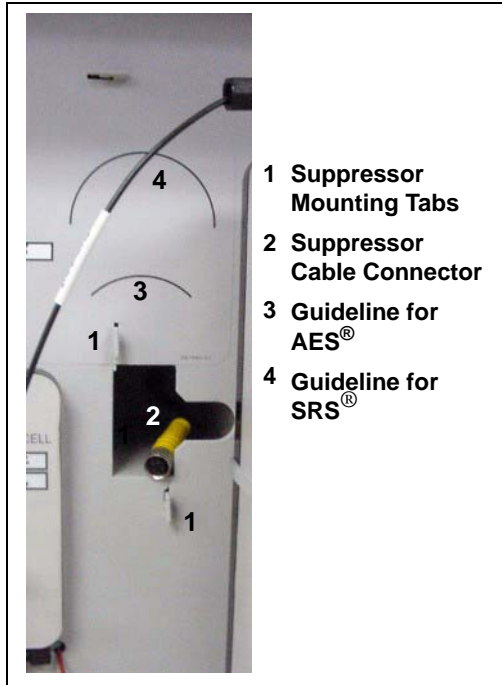

Figure 29. Suppressor Mounting Tabs and Guidelines
2. Locate the suppressor mounting tabs on the component panel (see Figure 29). Reach into the opening between the tabs and pull the yellow connector and attached cable slightly out of the opening.
5. Align the top of the suppressor with the guideline printed on the component panel (see Figure 29) and align the slots on the rear of the suppressor with the tabs on the panel.